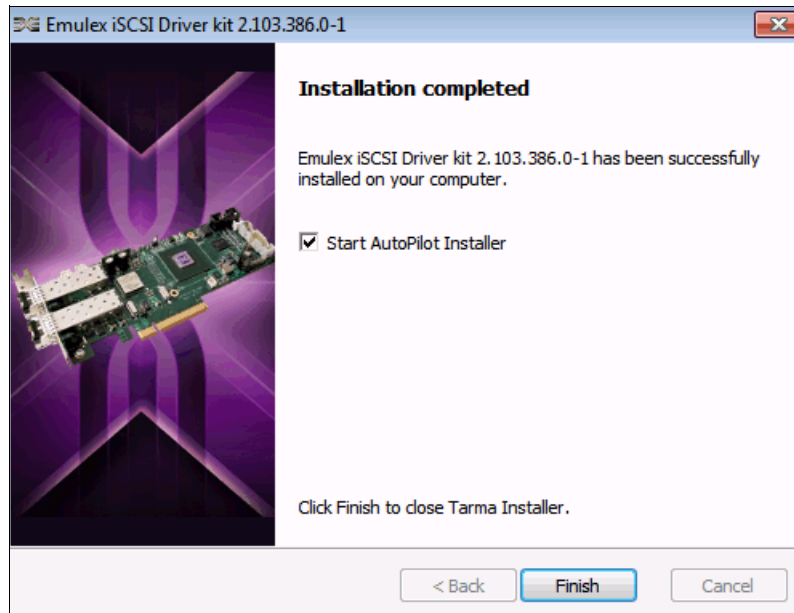

Figure 7-20 Emulex iSCSI installation completed
- When you see the Installation completed panel (Figure 7-20), click **Finish**.